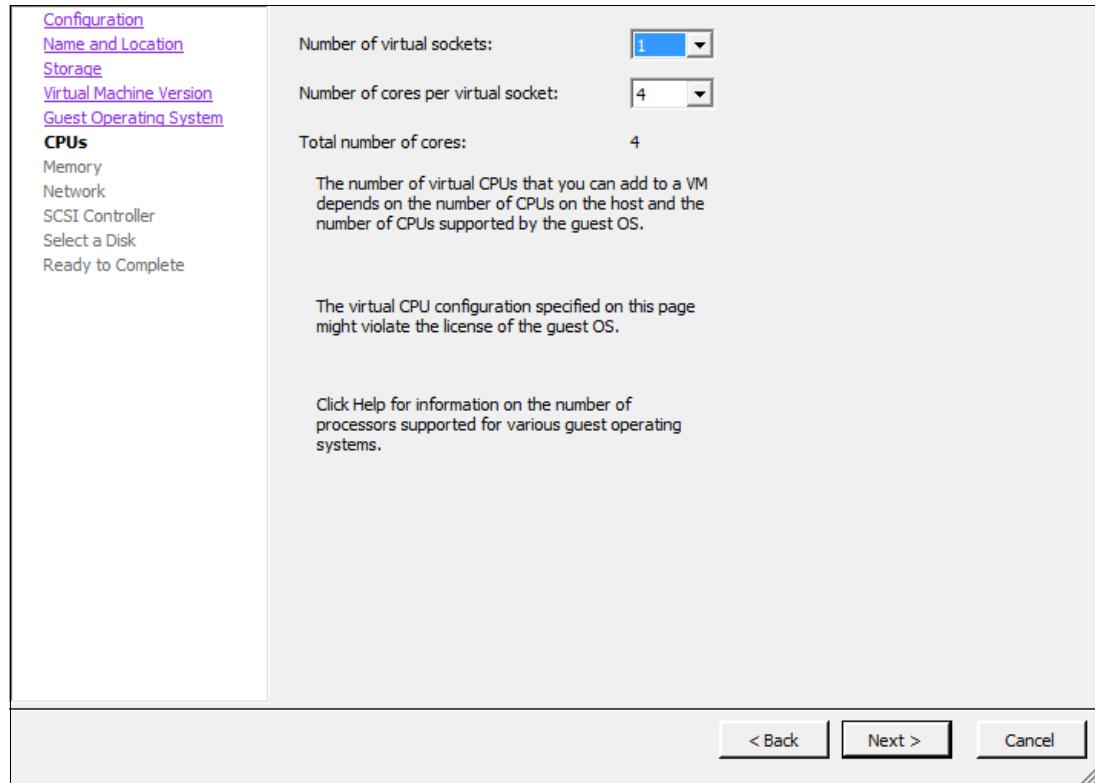

Figure 3-9 Select the appropriate number of cores
7. In the CPUs panel (Figure 3-9), select the number of virtual sockets and cores and click **Next**. In this example, the choice is 4 cores.